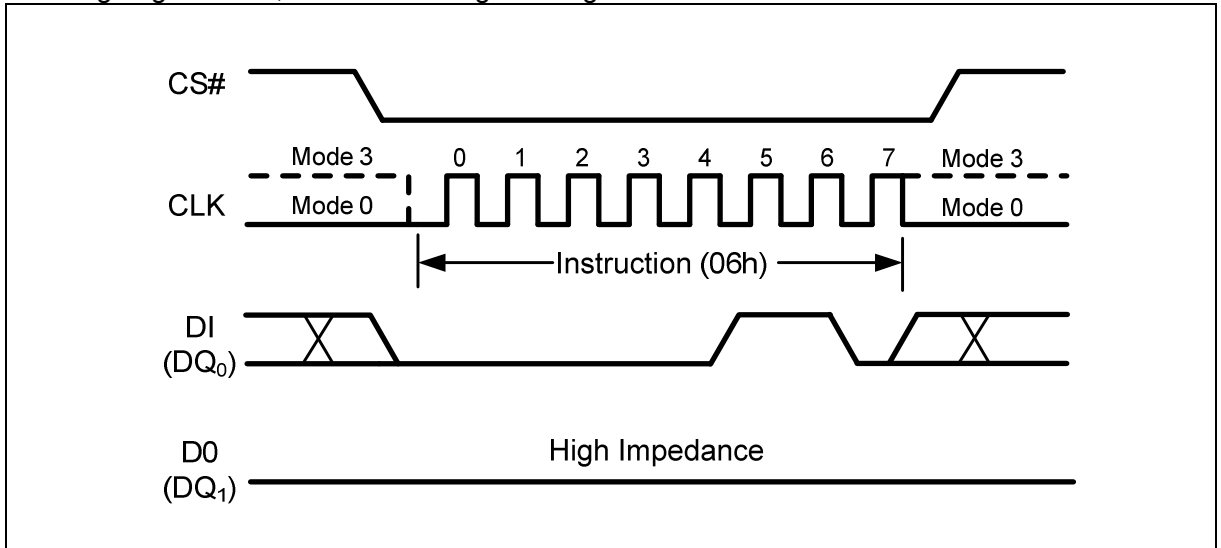

Figure 5 Write Enable Instruction
Instructions vary in length from a single byte to several bytes and may be followed by address bytes, data bytes, dummy bytes (don't care), and in some cases, a combination. Instructions are completed with the rising edge of edge CS#. Clock relative timing diagrams for each instruction are included in Figure 5 through Figure 29. All read instructions can be completed after any clocked bit. However, all instructions that Write, Program or Erase must complete on a byte boundary (CS# driven high after a full 8-bits have been clocked) otherwise the instruction will be ignored. This feature further protects the device from inadvertent writes. Additionally, while the memory is being programmed or erased, or when the Status Register is being written, all instructions except for Read Status Register will be ignored until the program or erase cycle has completed.
The Write Enable (WREN) instruction (Figure 5) sets the Write Enable Latch (WEL) bit in the Status Register to a 1. The WEL bit must be set prior to every Page Program, Sector Erase, Block Erase, Chip Erase, Write Status Register instruction. The Write Enable (WREN) instruction is entered by driving CS# low, shifting the instruction code “06h” into the Data Input (DI) pin on the rising edge of CLK, and then driving CS# high.